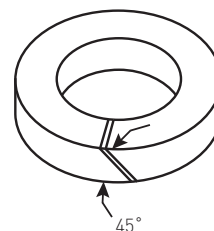

FIGURE 7A
3. **IMPORTANT:** Packing is supplied as a complete set and rings should be installed in same order as packaged in the set. Rings are either one piece solid or in a split form. The solid rings may be cut (one cut per ring) to facilitate installation. Rings should be cut using a razor blade or other similar thin sharp tool. Use a sawing action to cut a 45° slit as shown in Fig. 7a. Do not apply any type of lubrication to the stem, stuffing box or packing.